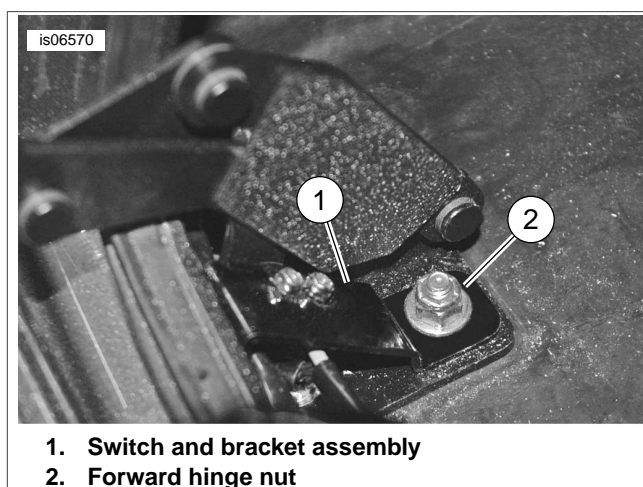

Figure 1. Install Trunk Light Switch
3. See Figure 1. Install the switch and bracket assembly on the trunk light harness onto the left hinge bracket.
- a. Remove the forward hinge nut (2) from the hinge bracket.
- b. Install the switch and bracket assembly (1) onto the hinge bracket.